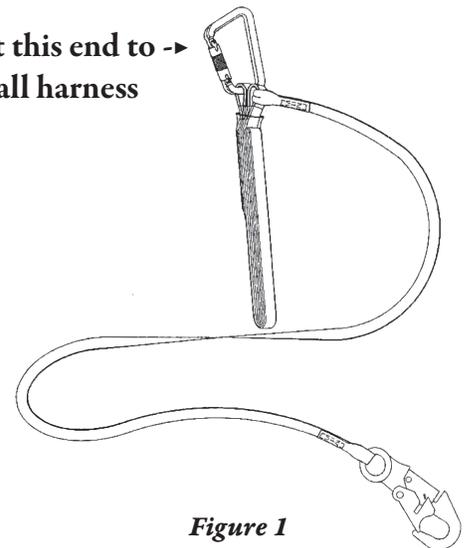
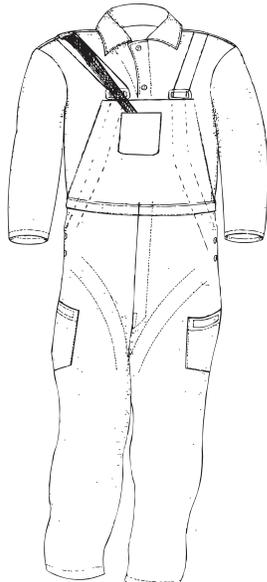
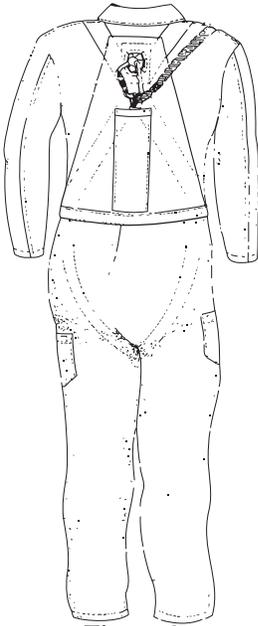

Figure 1
Figure 2
Figure 3
2. The Model # SPCL shock absorber lanyard (Figure 1) must only be used in conjunction with the overall, coverall or vest harness. The shock absorber is designed to fit in the elongated pocket at the center of the lower back (Figure 3). The carabineer at the end of the shock absorber is connected to the D-ring (attachment point) positioned between the shoulder blades at the center of the back (Figure 3). **The shock absorber lanyard must be connected before putting on the overall.** The snaphook at the opposite end of the shock absorber can be stored in the front chest pocket when not in use (Figure 2). The overall has a retaining strap on the right shoulder (it can be moved to the left shoulder) to retain the 1" wide web portion of the lanyard (Figure 2).